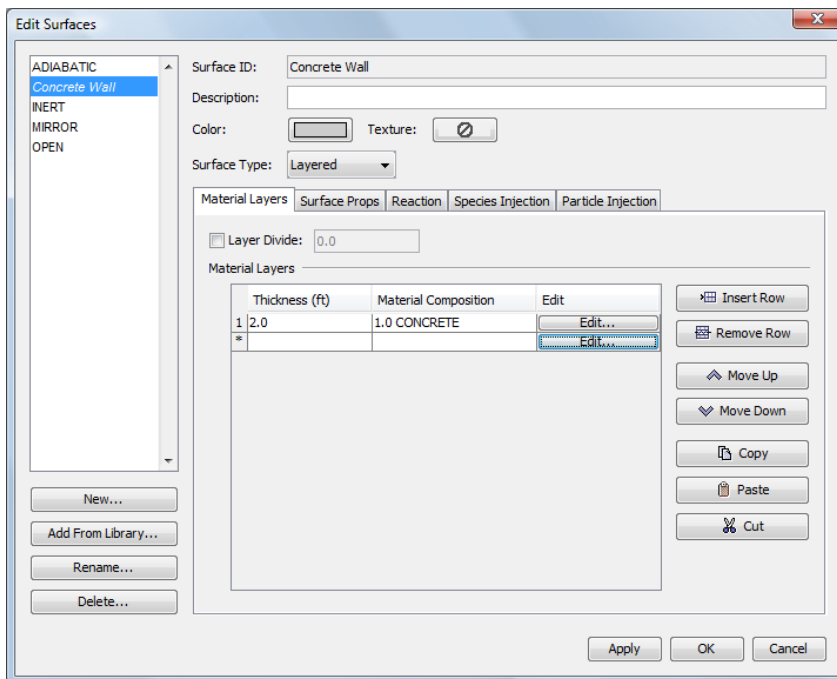

Figure 6.8. The concrete surface
- In the **Edit Surfaces** dialog, click **Apply** to save the changes, Figure 6.8. We have just stated that this surface is 2 feet thick and composed entirely of concrete.